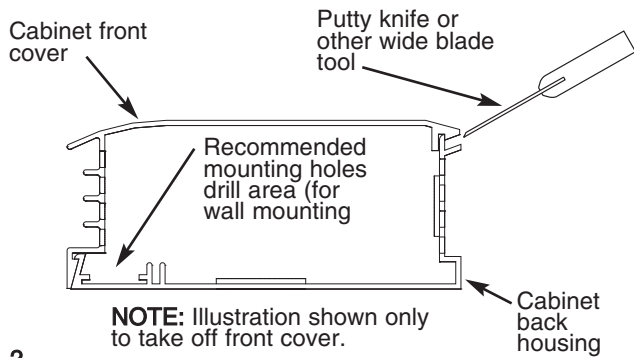

Fig. 2
15. To avoid damaging heater, do not use a screw driver to separate front cover from back housing. Use only a putty knife as shown, see Fig. 2
2. Remove front cover by laying the heater on its back and inserting a putty knife (or other thin, wide blade tool, 1" [25mm] wide minimum) approximately 6" (152mm) from the end of the heater and prying up as shown in Fig.2. This will spring the snap lock closure open. Repeat as required down the length of the heater until the front cover completely disengages from the heater back.
- Drill the required size mounting holes in the heater housing (See Fig. 2 for recommended mounting hole location.)
- Drill the required size mounting holes in all the heater housings. (See Fig. 2 for recommended holes in the heater housings.)